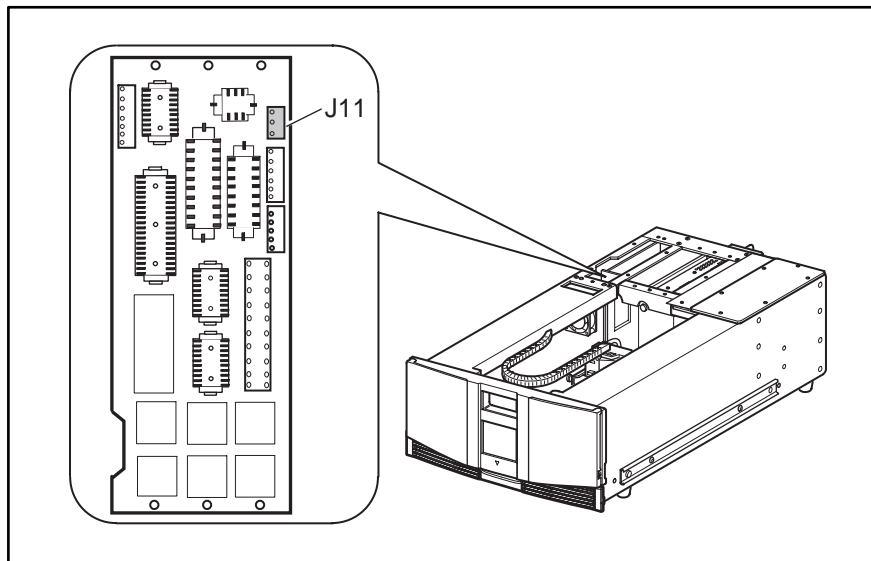

Figure 2-22: Card cage/backplane assembly
4. Disconnect the cable at J11 on the card cage/backplane assembly (see Figure 2-22).
6. Remove the screw from the card cage/backplane assembly connector access plate and then lift the access plate out of the library (see Figure 2-22).